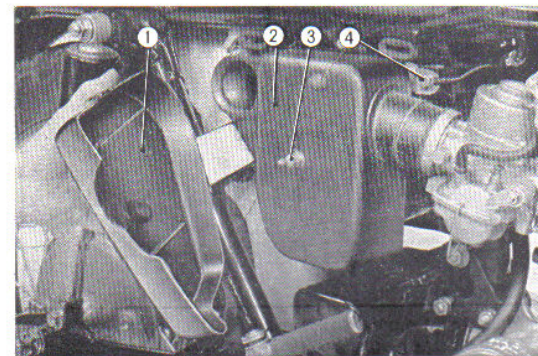

Fig. 6.19 Air cleaner cover removing
3. Unscrew the 6 mm hex bolt, loosen the air cleaner connecting tube setting screw and remove the air cleaner element. (Fig. 6.19)